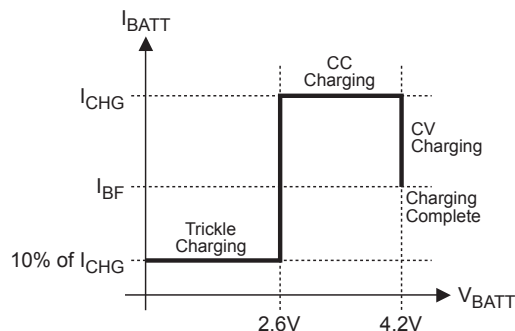
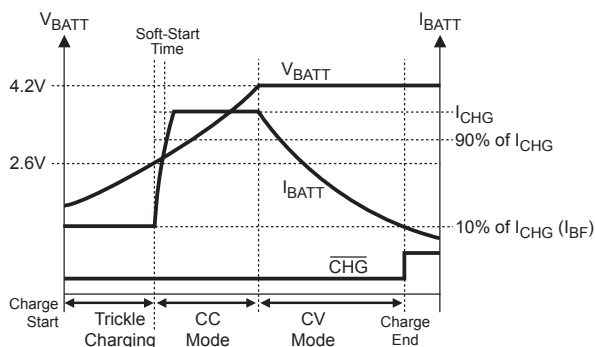

Figure 2—MP2602 Typical Charging Profile
Figure 3—MP2602 Typical Charging Procedure
Figure 2 below shows the typical charging profile for the MP2602. Figure 3 shows the typical charging procedure. For a fully depleted battery with a terminal voltage lower than 2.6V, the MP2602 will start with the trickle charge (preconditioning) at 10% of the programmed full charge current. After the battery voltage reaches 2.6V, the charger begins charging at the constant current of the programmed value ( $I_{CHG}$ ). This is referred to as Constant Current (CC) mode. Once the battery voltage reaches 4.2V, the charger will operate in the constant voltage (CV) mode until the battery is fully charged. The charge current drops during CV mode, and the battery full indication is set when the charge current in the CV mode is reduced to the programmed full battery current ( $I_{BF}$ ).